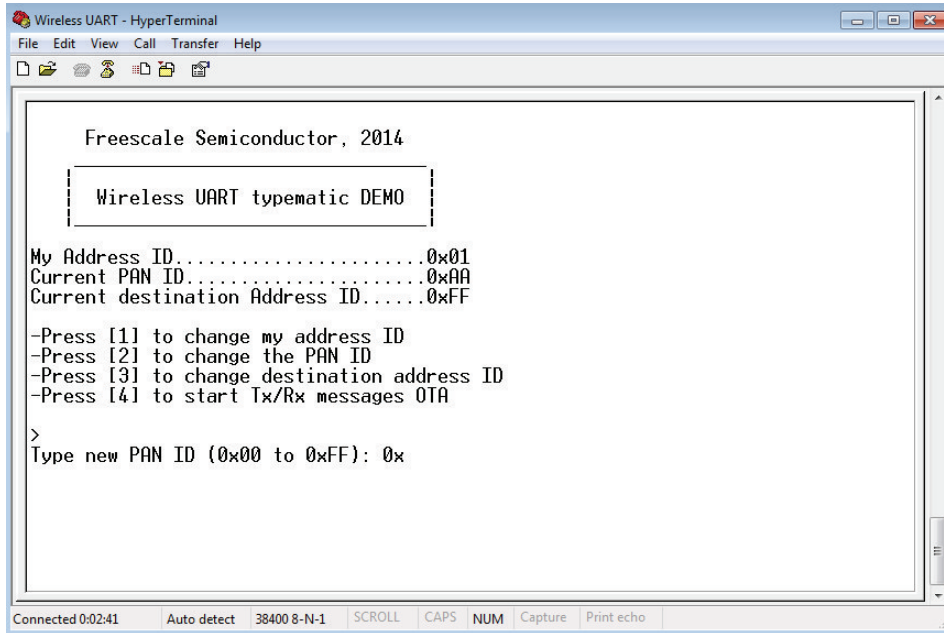

Figure 3-3. PAN ID String
2. To change the PAN ID value, press “2” from the main menu screen and the PAN ID string should appear as shown in Figure 3-3.